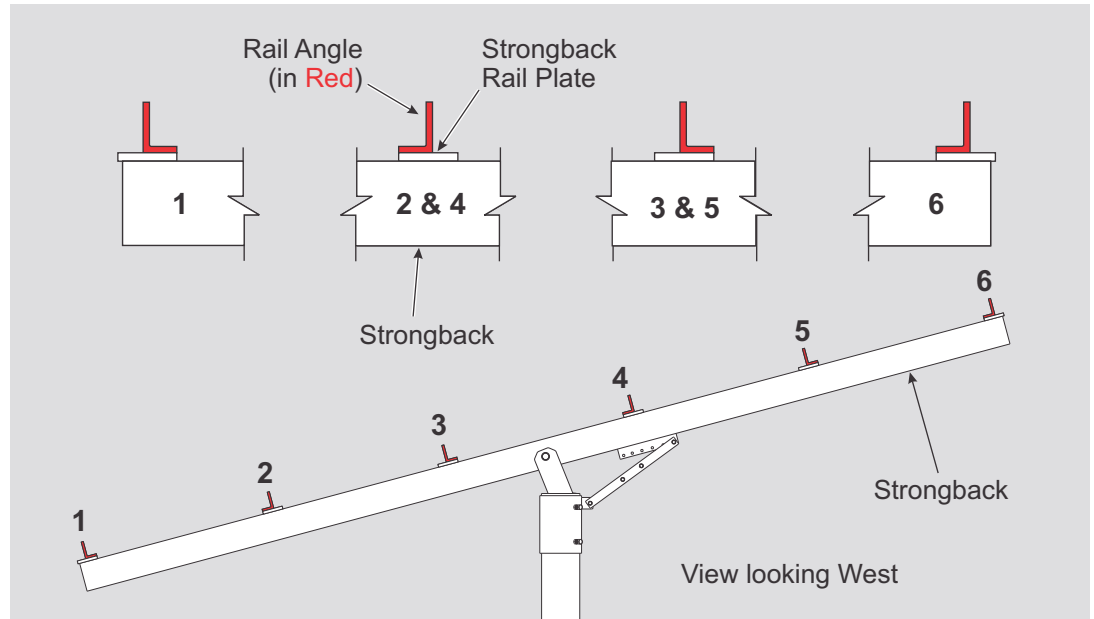
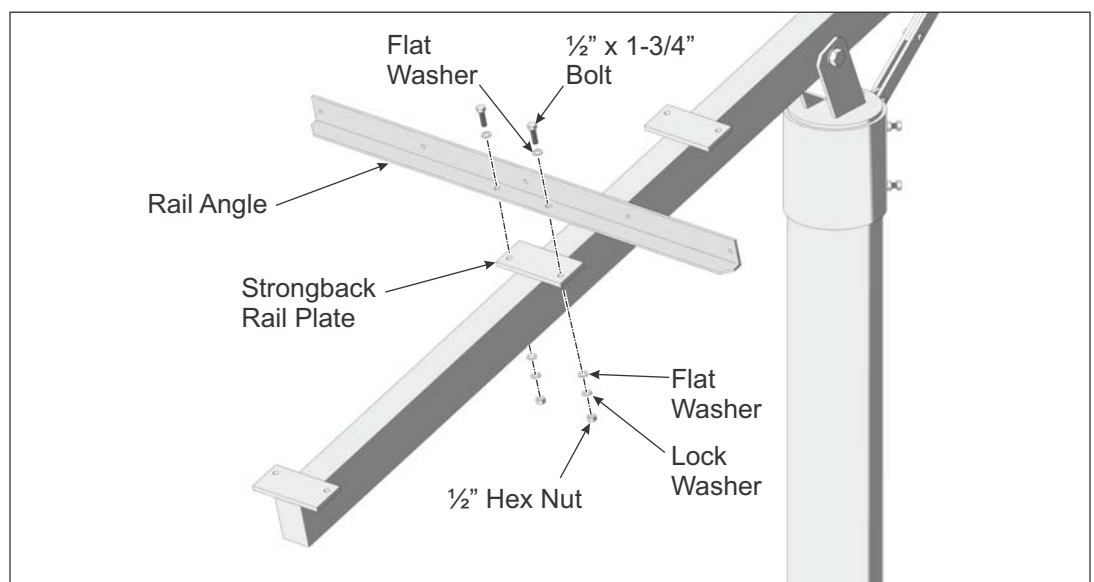

Figure 3-1: Orientation of Rail Angles to Strongback
Figure 3-2: Installing Rail Angles to Strongback
Rail Angles run in an E-W direction and are secured to the rail plates (welded to the Strongback) using the 1/2" x 1-3/4" bolts and hardware. Proper orientation of the Rail Angles to the Strongback is very important. Follow these instructions carefully (see Figures 3-1 & 3-2). There are 6 Rail Angles to install.
- A. Referring to Figure 3-1 for orientation of the Rail Angles, position the Rail Angle on the Rail Plate of the Strongback and secure with 1/2" x 1-3/4" bolts and hardware. Finger tighten for now. (See Figure 3-2)